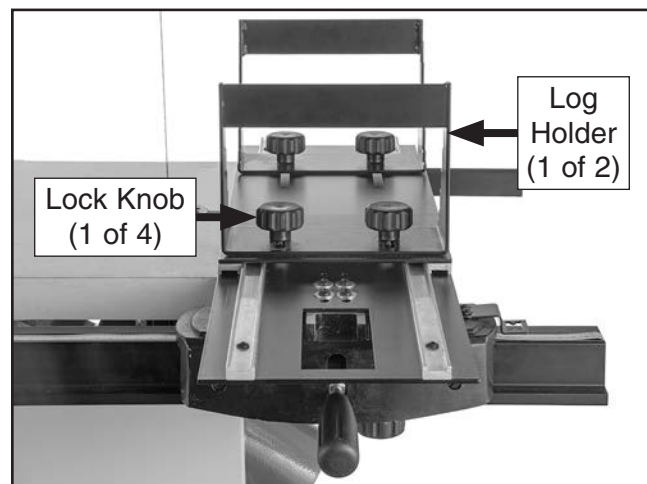

Figure 2. Location of lock knobs and log holders.
4. Loosen lock knobs shown in **Figure 2** and adjust log holders fully open.